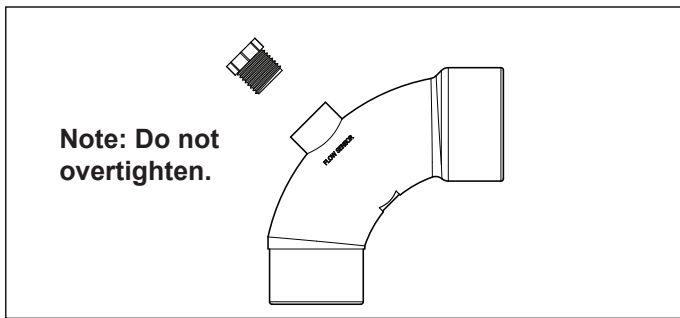

Figure 7. Sweep Elbow
- 5.1 The CV model filter comes with a Jandy Pro Sweep Elbow for this purpose. The sweep elbow also includes a threaded port and plug so that a 1/2" hose bib can be connected for pressure testing. See Figure 7.